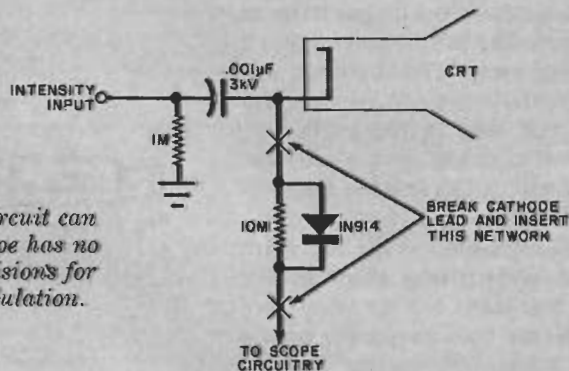

Fig. 5 This circuit can be used if scope has no internal provisions for intensity modulation.
**Setup and Operation.** Connect Cyclops to an oscilloscope (set to external horizontal) as follows: J1 to horizontal input, J2 to vertical input, J3 to ground, and J4 to intensity input. If your scope does not have provision for an intensity input, modify it according to Fig. 5.